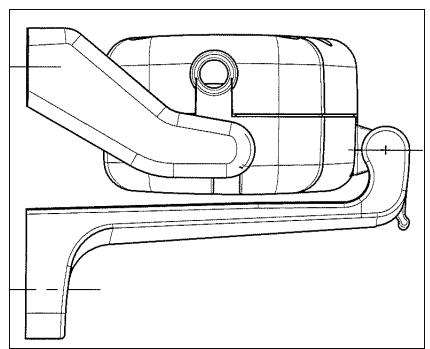

Figure 5
- G. Complete assembly of the chain terminal with the rapid release hook inserted onto the pin Ø4x32 (provided) in median position (Fig. 5).